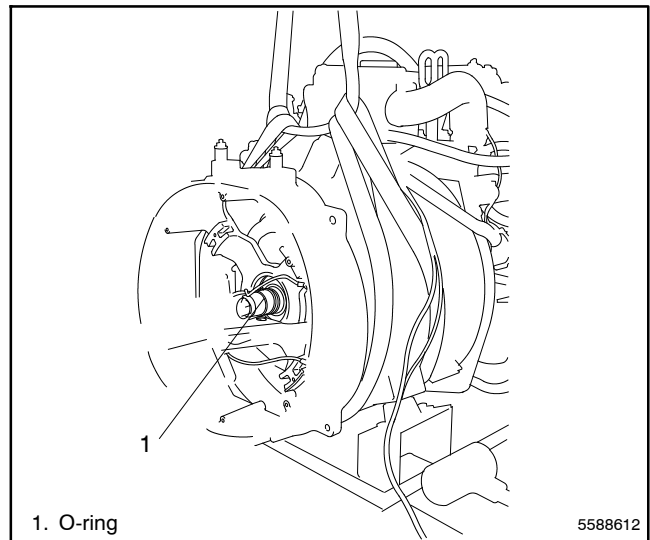

Figure 4-16 Stator Installation
5. Apply multi-purpose grease to the O-ring and install in the end bracket bearing bore. See Figure 4-16. Use a sling to support the stator assembly while installing the stator over the rotor. Be careful not to damage the rotor.